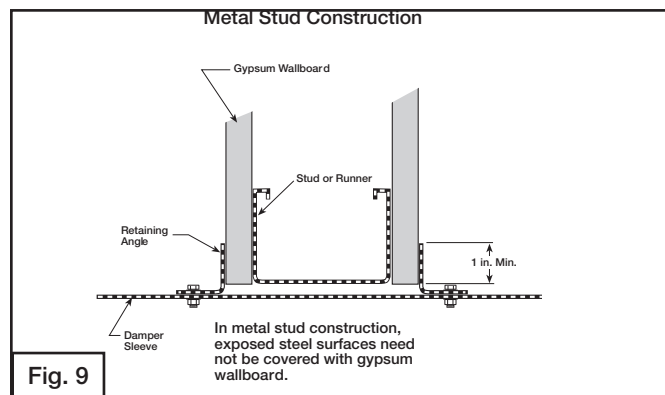

Fig. 9
- Frame wall openings as shown below (see **Fig. 9 & 10**).